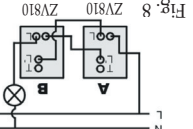

Fig. 8
3. When two sensor switches are used in a two way circuit (See Fig. 8) the operation will be as follows:-
- 3. To replace both 2 way switches in a two way circuit. (See Fig. 8)